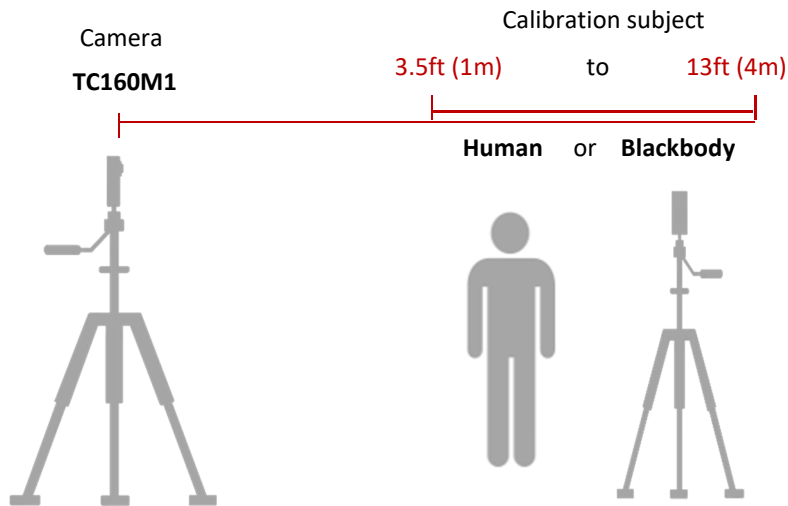

Figure 8: Calibration subject should stand at approximately the same distance from the camera as the screening subjects.
- 2) Enter the temperature of the calibration subject in the dialog box shown in Figure 7(a). The calibration subject should be at approximately the same distance from the camera as the screening subjects, as detailed in Figure 8. If using a human subject, measure subject's temperature using a handheld thermometer (FDA approved device is preferred); If using a blackbody subject, set setpoint temperature to 95–97 °F (35–36 °C) and allow the blackbody to reach the setpoint temperature before calibration is started.